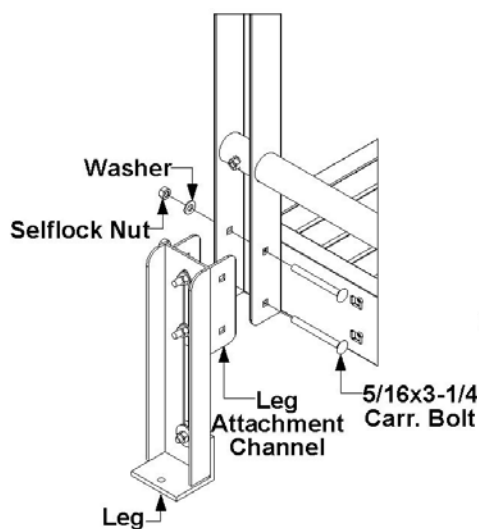
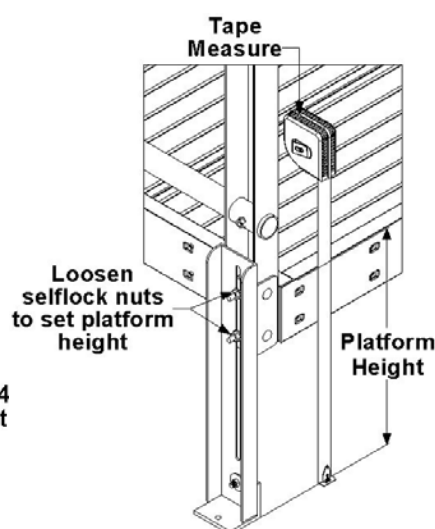

Fig.3.6
Fig.3.7
3.3 Platform Leg Attachment: To attach the legs to the platform place the leg attachment channel over the handrail post with one edge of the attachment channel on the inside of the handrail post and one to the outside of the handrail post. Align the holes in the handrail post and the leg attachment channel, place a 5/16 x 3 1/4" hex bolts through all and fasten with a washer and self locking nut (**Fig.3.6**). To adjust the leg height, loosen the self locking nuts on the inside of the leg channel and set landing height and retighten the self locking nuts (**Fig.3.7**). *NOTE: When adjusting platform height pressure may need to be applied to leg when re-tightening self locking nuts to hold the carriage bolts in place.*